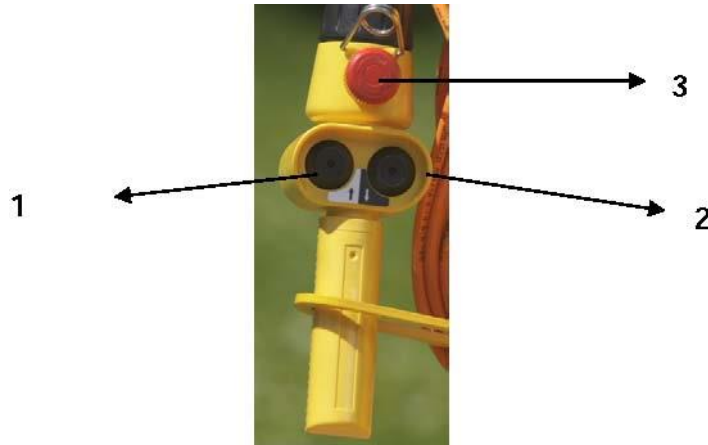

Figure 8
On the steering console (figure 8), press the left button to release the brake. Hydraulic cylinder shifts to position 1.
We can start pulling, when the winch is on the ground and properly strengthened. Apply the hand brake on the tractor. If the PTO shaft is engaged and the hydraulic system requires pressure, we can start pulling. Press the right button on the steering console (pos. 2, figure 8). The wire rope starts winding on the drum. When we release the button, the winding stops.